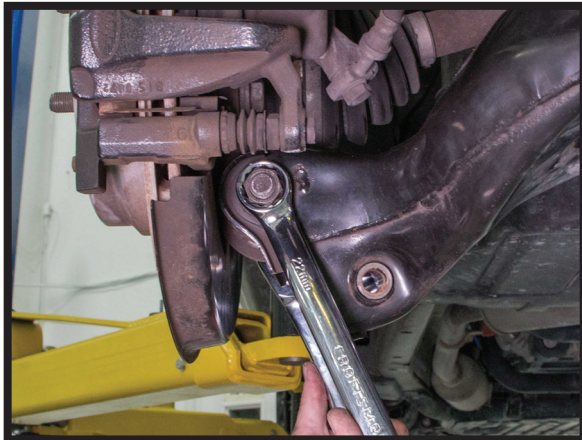

FIGURE 41
13. LOOSEN AND REMOVE THE OUTER LOWER SPINDLE NUT AND BOLT. (FIGURES 41, 42)